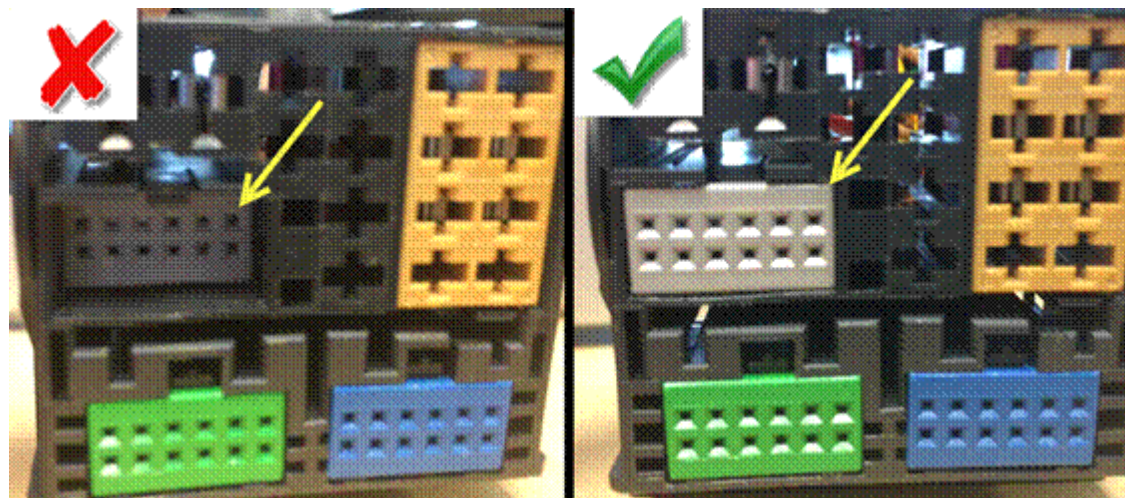

Figure 3. Grey 12-pin flat contact lock incorrectly slotted (left) and correctly slotted (right).
3. Remove the quad lock. Check the grey 12-pin flat contact lock to see if it is correctly slotted in the flat contact housing (Figure 3).